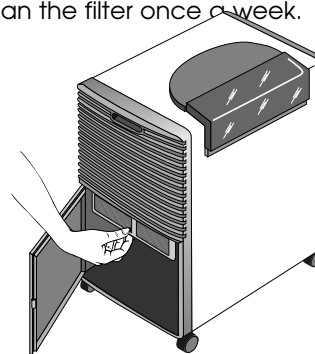

fig. 6
- To remove the air filter, extract by pulling it as shown in fig. 6.